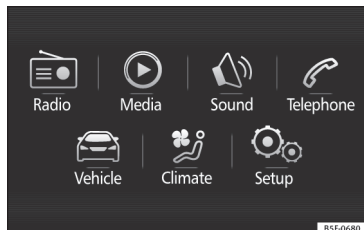

Fig. 41 Easy Connect: Main menu.
- Press the Infotainment button  /  and then the **Vehicle** function button  **»» Fig. 41**,